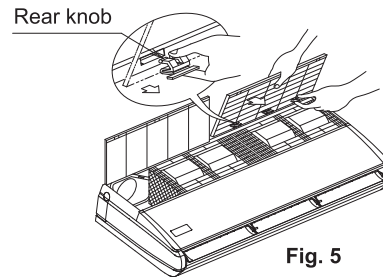

Fig. 5
- Keeping the suction grille opened, hold the knob at the back of the suction grille and at the same time, pull the suction grille forward to remove. (Refer to Fig. 5)